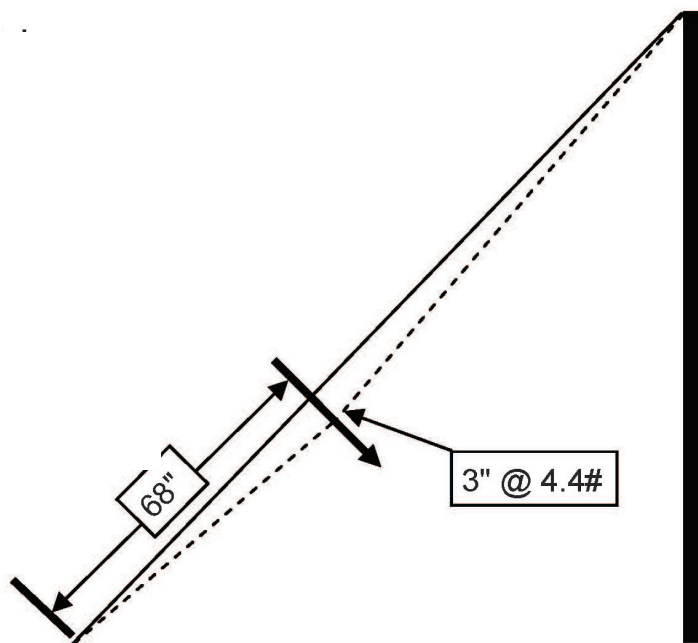

FIGURE 3-32. Guy cables with 100 lb of tension
Step 5: Adjust each cable turnbuckle to maintain plumb and increase cable tension. A deflection of 3 inches when using a 4.4 pound (20 Newton) perpendicular force, 68 inches from the duckbill anchor loop equates to 100 pounds of tension in the cables (see FIGURE 3-32).